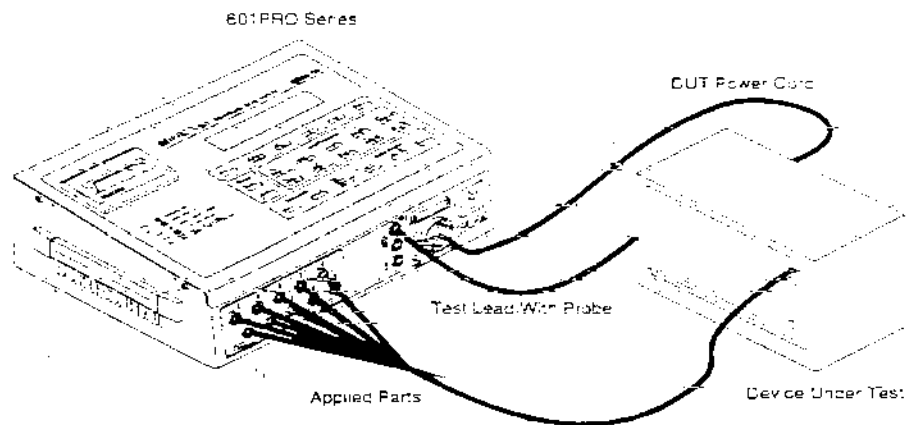

Figure 1.
- Power the automatic testing equipment through mains supply and the equipment under test through the automatic equipment, as shown in the Fig.1 and 2
- The ECG cable must be connected to the MyLab ECG connector (if present) and the applied parts terminals in the automatic equipment (see Fig.1 and 2).